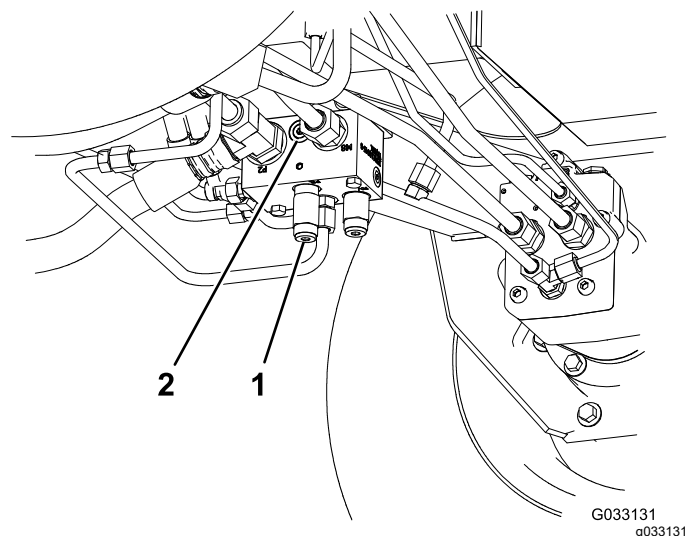

Figure 42
- 95-0985, coupler fitting (2)
- 340-77, hydraulic fitting (2)
- Install a diagnostic fitting in the unmarked port located between ports M8 and P2 on the rear traction manifold (Figure 42).